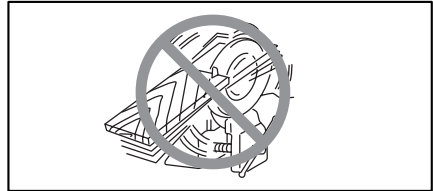

Fig. 7
18. **Never attempt to saw with the circular saw held upside down in a vise. This is extremely dangerous and can lead to serious accidents. (Fig. 7)**